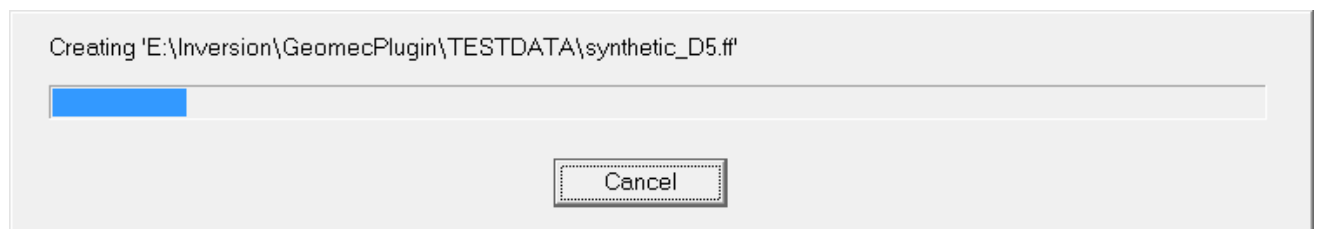

Figure 21 Creating a filos results file
- d. Copying the files file (Figure 21)